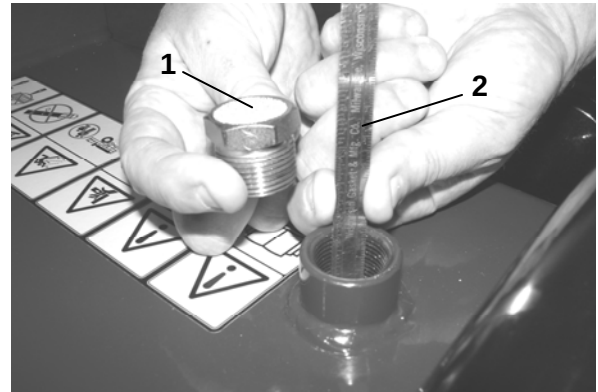

Figure 9
2. Clean around the hydraulic vent plug (Figure 9).